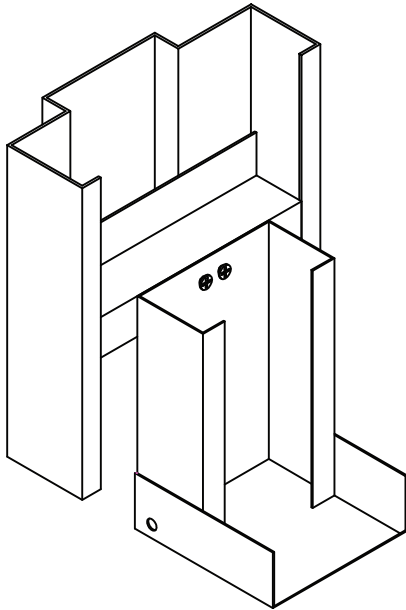

Figure 28 – Z Type weld in anchors steel studs
10.6 Square and nail top anchor to stud on ONE JAMB ONLY. Check plumb and square and continue to nail balance of anchors to stud. Repeat for opposite jamb. For steel studs install screws from back of stud into Z anchor (see Figure 28).